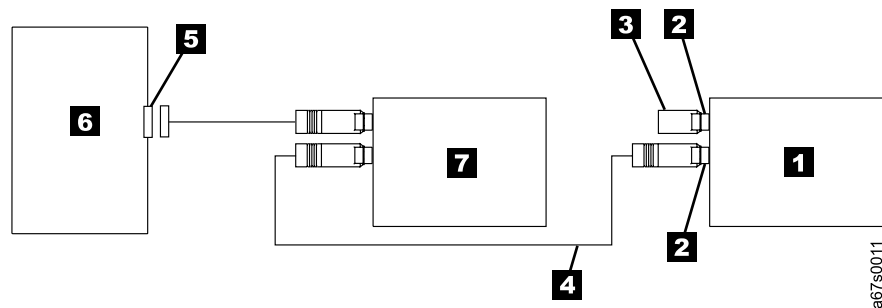

Figure 4. Example of connecting multiple SCSI devices to the server. The view is from the top.
- **If the 3580 Ultrium 2 Tape Drive Is One of Multiple Devices On the SCSI Bus:** connect the SCSI bus cable to the next device on the bus, and move the terminator to the last device on the bus (see Figure 4). The maximum allowable length of your bus cable depends on the drive interface: